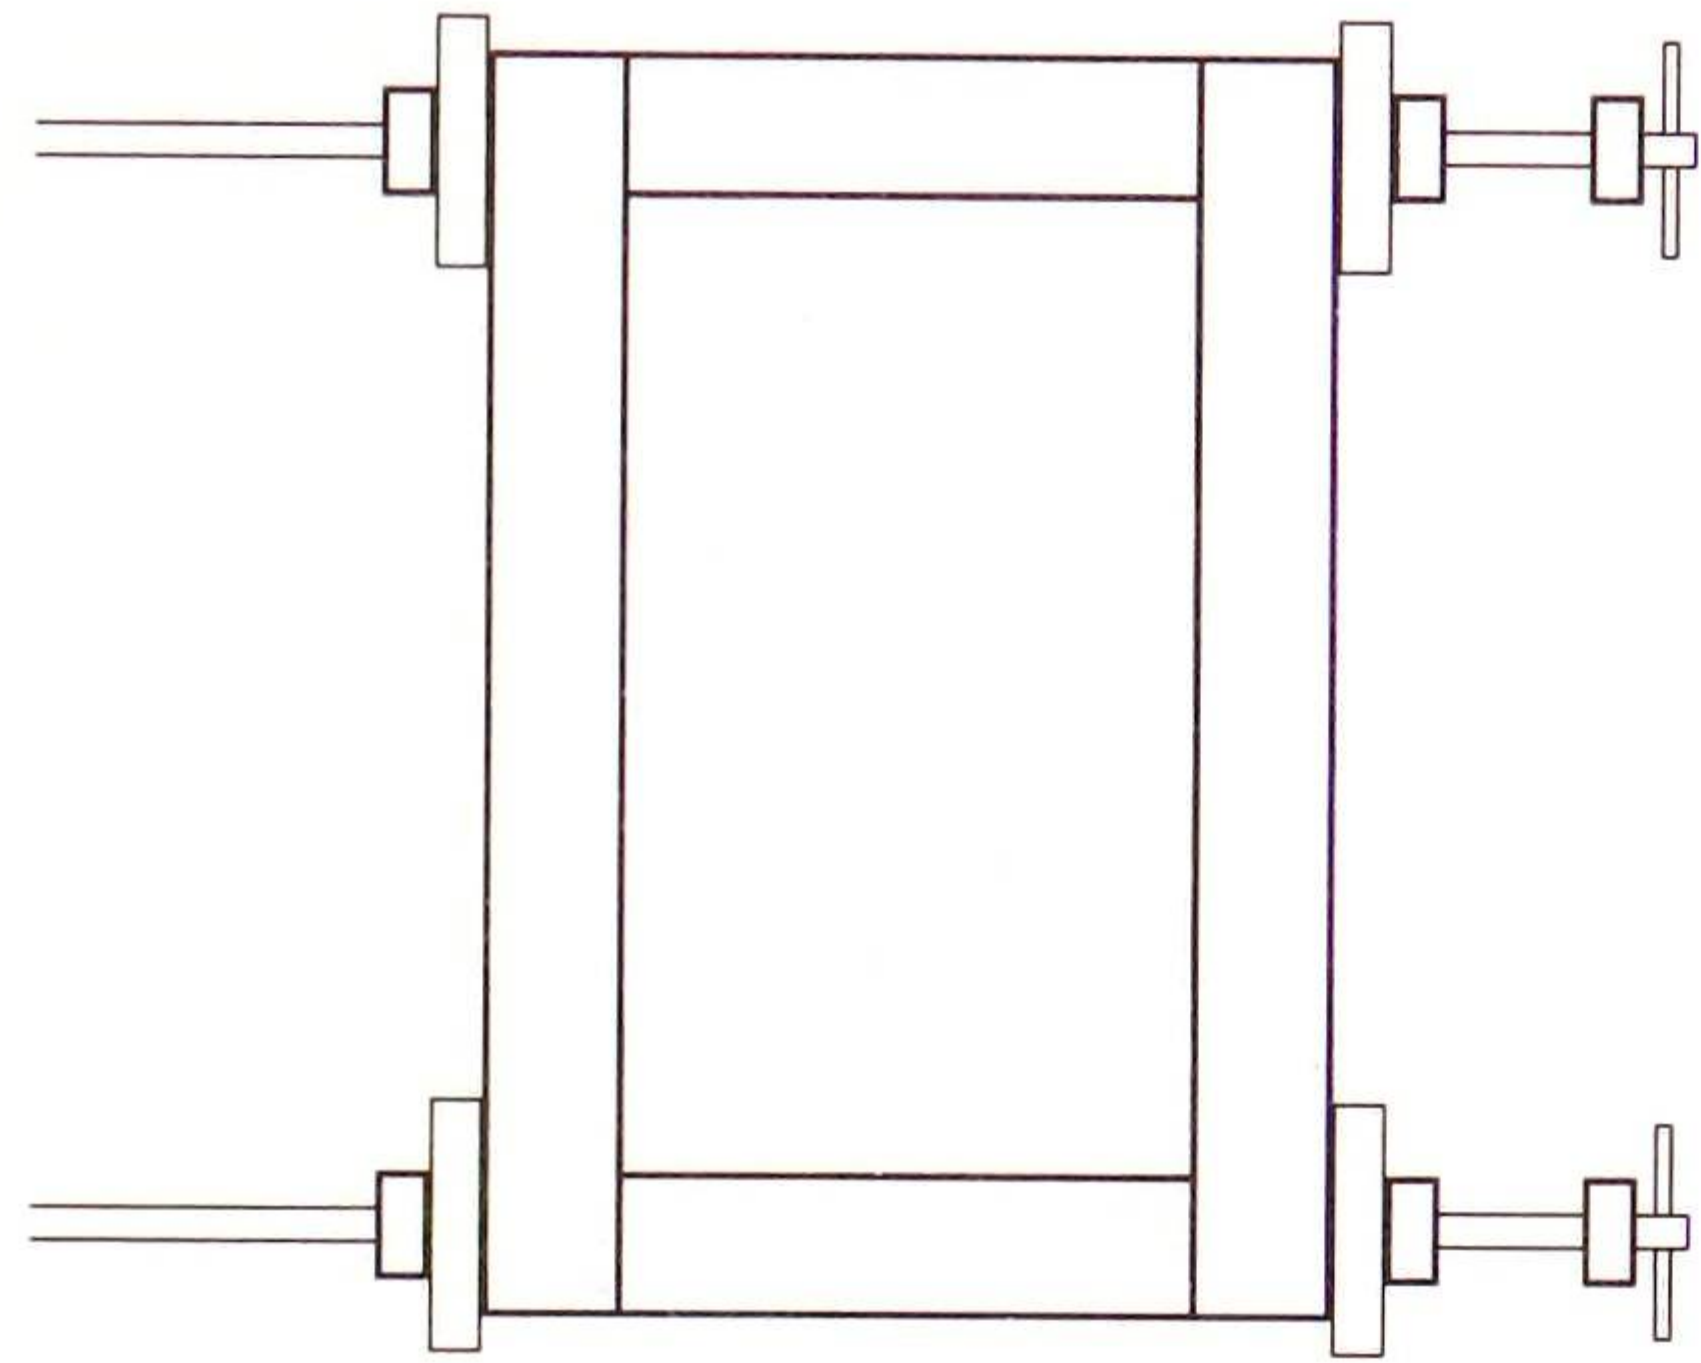

Fig. 8 Assembling the door
9. The door can now be assembled with glue (Fig. 8) and, when dry, fitted to the carcass by careful planing. Fit the hinges, swing the door and ensure it fits properly.